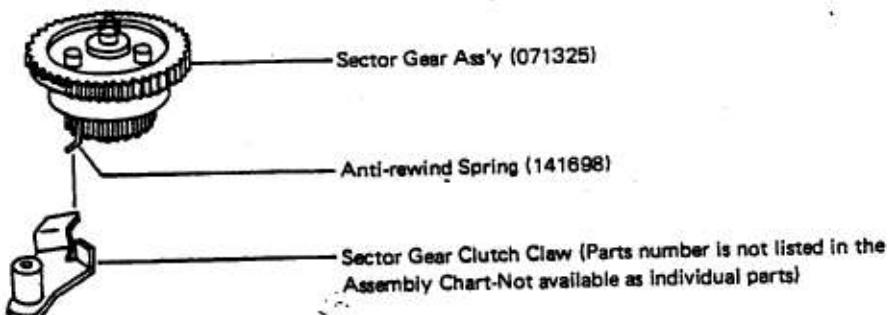
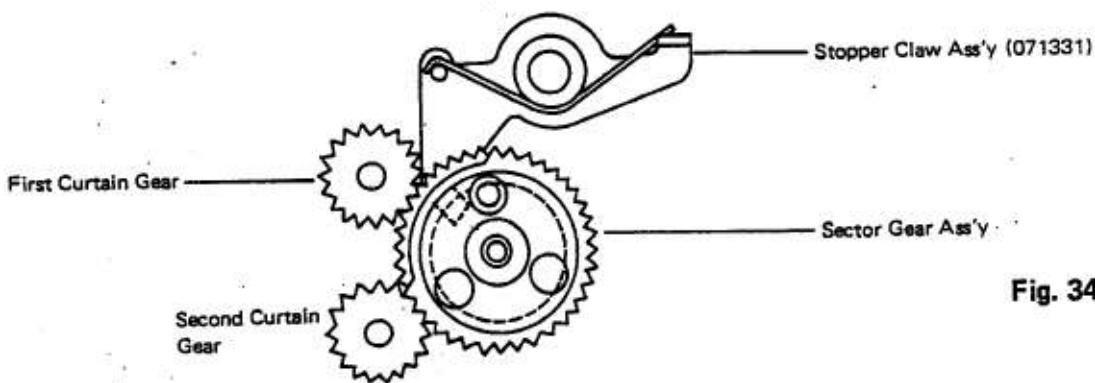

Fig. 33
Fig. 34
- (3) Again, wind the second shutter curtain with the screw driver until it stops.
- (4) Wind the first shutter curtain by turning the First Curtain Stopper S.S. (66001054) clockwise completely.
- c) Install the Sector Gear Ass'y (071325) to the correct position and direction as shown in (fig. 34).
When installing the Sector Gear Ass'y make sure the Anti-Rewind Spring (141698) falls into the slot of the Sector Gear Clutch Claw (fig. 33), at the same time, the Stopper Claw Ass'y (071331) engages the groove on underside of the Sector Gear Ass'y (071325) as shown in (fig. 34).